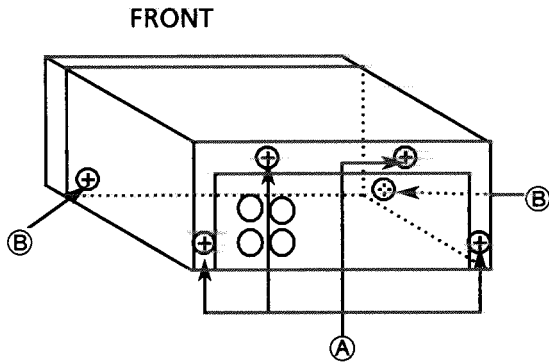

Fig.1
1. Remove 4 screws (A) on the rear side and 2 screws (B) on both sides of the cover. (Fig.1)